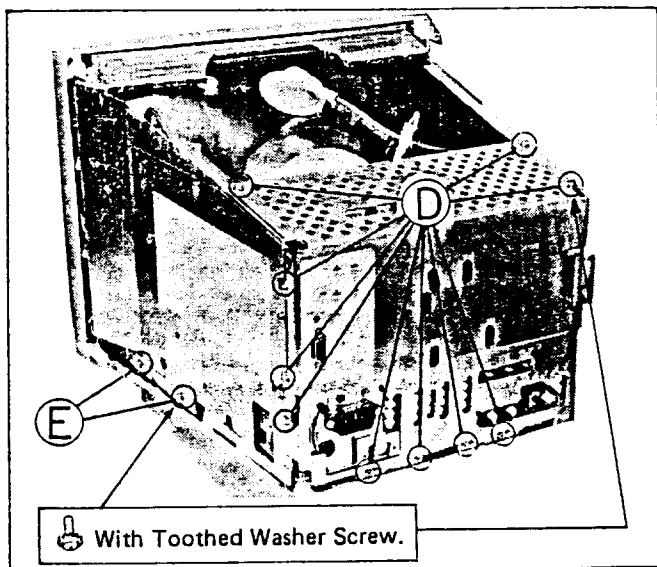

Fig. 3
1. Unscrew the thirteen screws marked **(D)** shown in Fig. 3 and 4, and remove the rear shield.
2. Remove the eight screws marked **(E)** shown in Fig. 3.